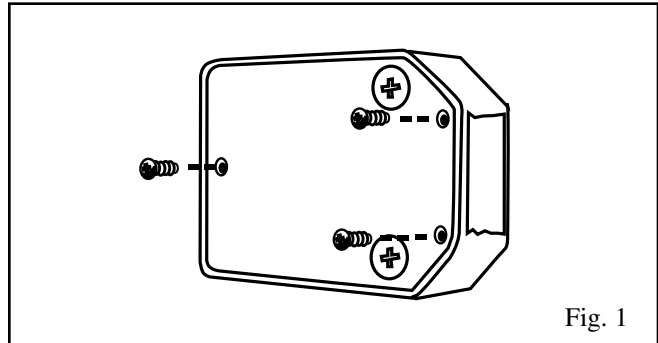

Fig. 1
2. Remove (3) small metal screws as indicated in Fig. 1.
- Engage the two metal contacts of the Jumper Harness plug into the port terminal in the upper left corner of the front of the main housing. The metal lead coming from the red (+) wire must contact the uppermost terminal and the metal lead coming from the black (-) wire must contact the lowermost terminal. Hold the Jumper Harness plug in place as you connect the battery. See Fig. 1.